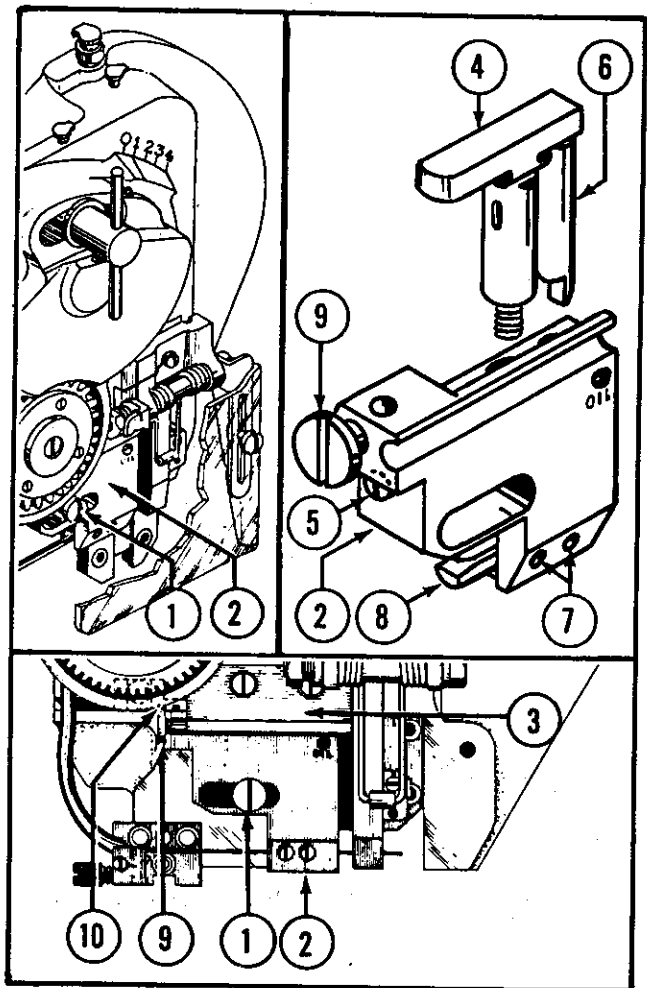

Figure 18—Removing and Replacing Movable Cutter
d. **MOVABLE CUTTER** (See Fig. 18)—The cutting edge of the movable cutter should be periodically checked for sharpness. A dull cutter can be resharpened but eventually must be replaced.